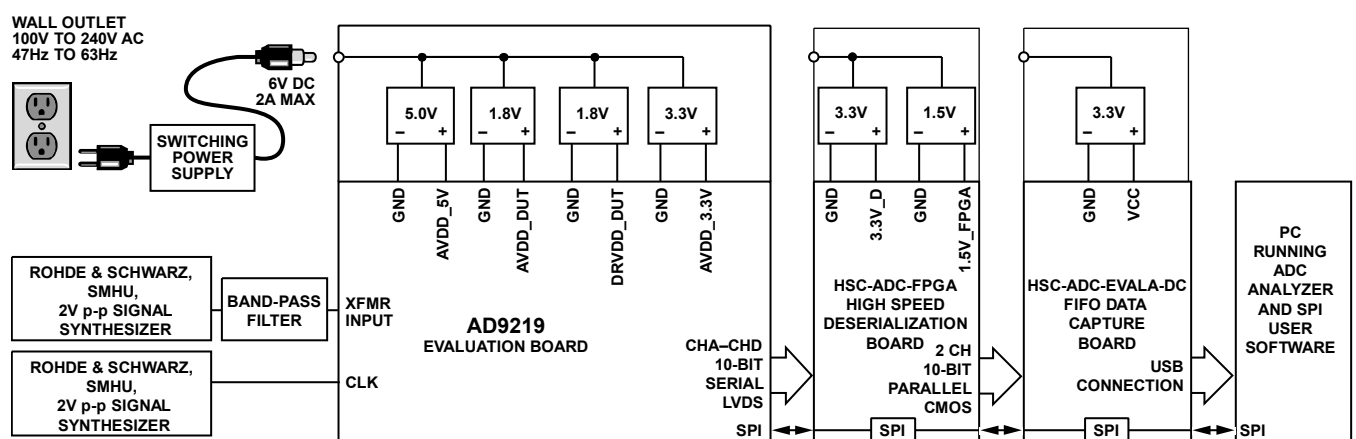
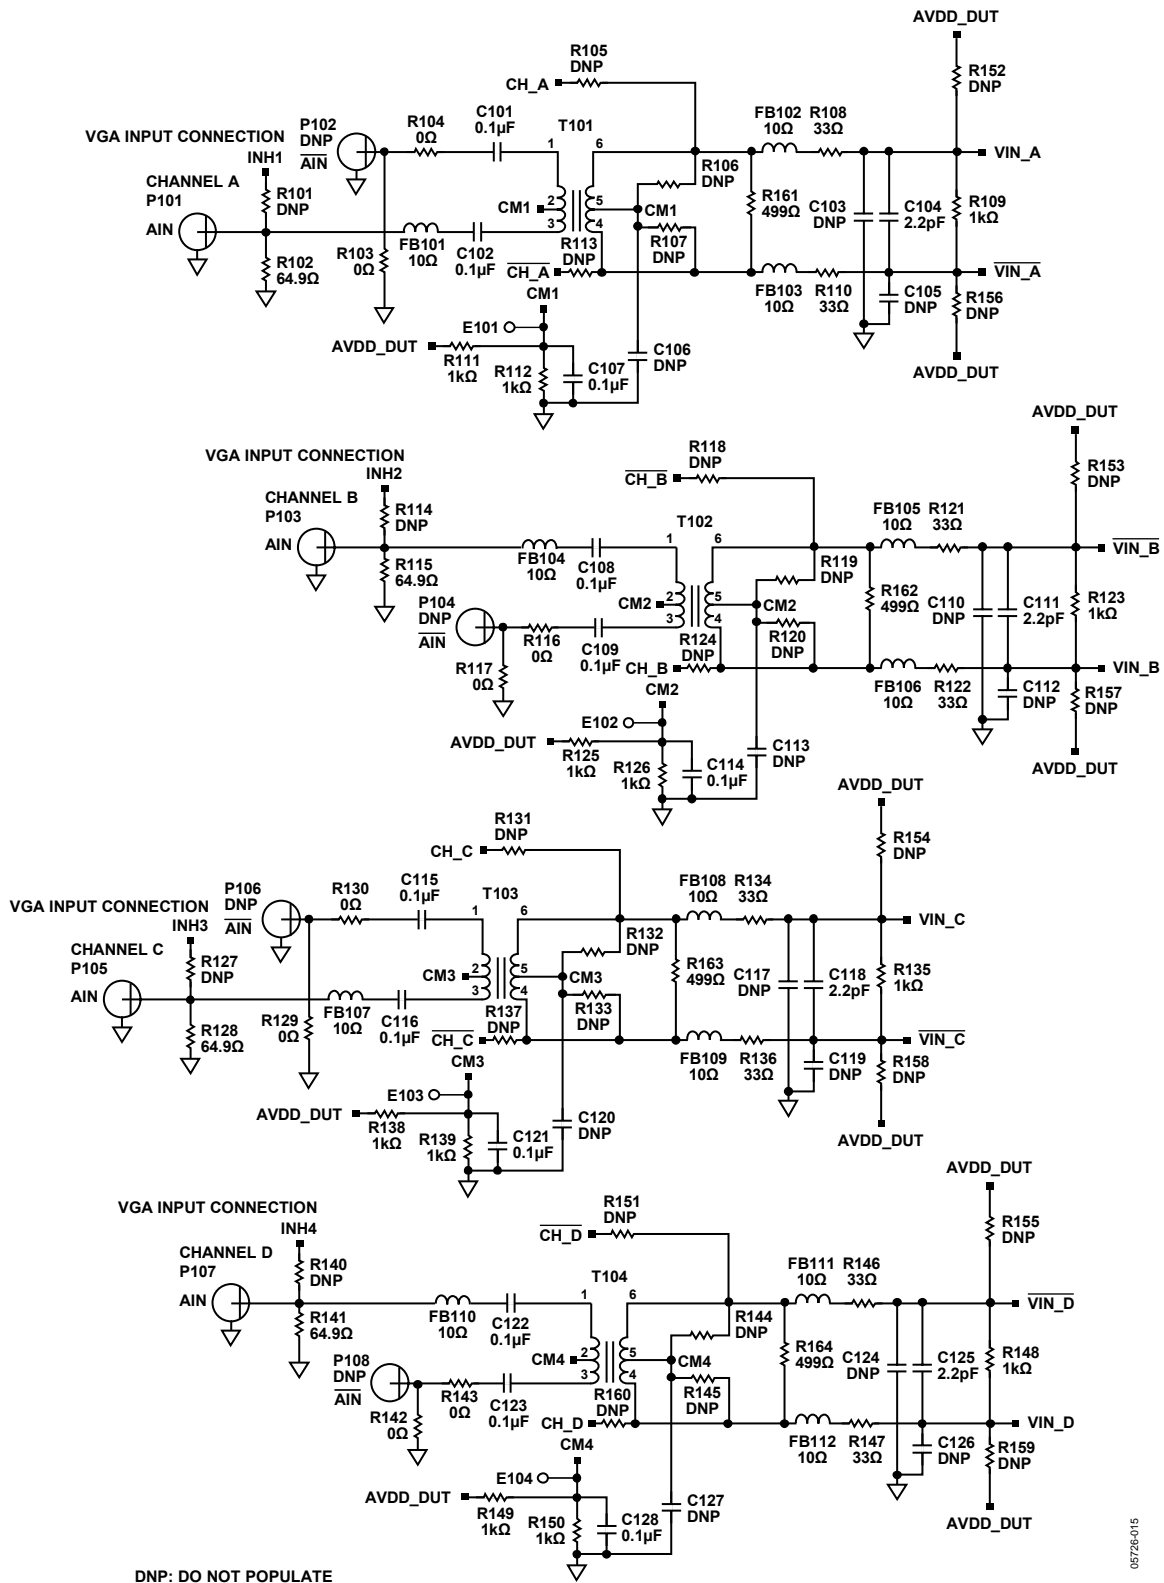

Figure 70. Evaluation Board Connection
Figure 72. Evaluation Board Schematic, DUT Analog Inputs
The AD9219 evaluation board provides all of the support circuitry required to operate the ADC in its various modes and configurations. The converter can be driven differentially through a transformer (default) or through the AD8332 driver. The ADC can also be driven in a single-ended fashion. Separate power pins are provided to isolate the DUT from the AD8332 drive circuitry. Each input configuration can be selected by proper connection of various jumpers (see Figure 72 to Figure 76). Figure 70 shows the typical bench characterization setup used to evaluate the ac performance of the AD9219. It is critical that the signal sources used for the analog input and clock have very low phase noise (<1 ps rms jitter) to realize the optimum performance of the converter. Proper filtering of the analog input signal to remove harmonics and lower the integrated or broadband noise at the input is also necessary to achieve the specified noise performance.
See Figure 72 to Figure 80 for the complete schematics and layout diagrams that demonstrate the routing and grounding techniques that should be applied at the system level.
- **D+, D-:** If an alternative data capture method to the setup described in Figure 72 is used, optional receiver terminations, R206 to R211, can be installed next to the high speed back-plane connector.